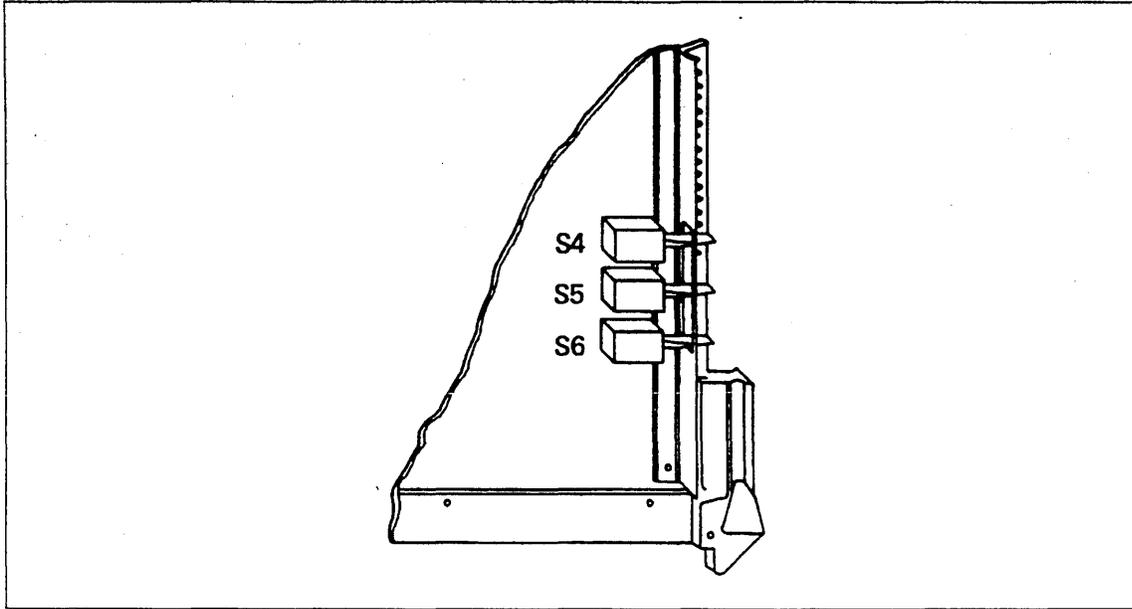

Figure G-5. Switch Numbering Scheme for CYBER Models 815 and 825 Without Memory Upgrade Option
- ___ 4. If all of the CM reconfiguration switches (refer to figures G-5 and G-6) are centered, reset them to the position shown in the Reconfiguration Setting Switch Number column and deadstart. If the switches are not centered before the attempt to reconfigure, additional reconfiguration is not recommended.